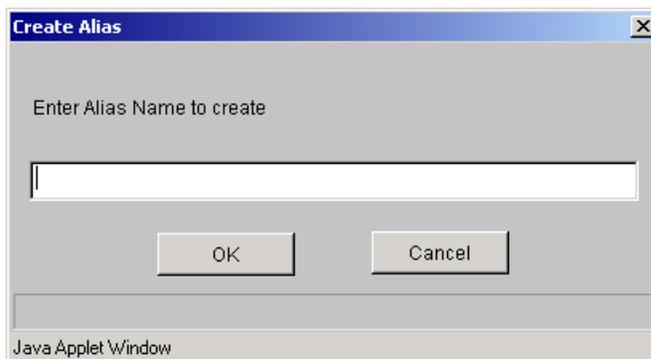

Figure 4-11 Create Alias window
3. Click **Create Alias** to be asked to enter a name, as shown in Figure 4-11